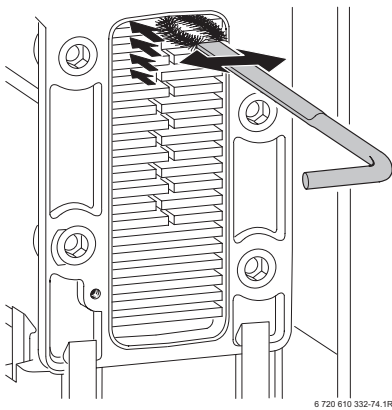

Fig. 52
- Clean the heat exchanger from top to bottom using the brush. Refer to fig. 52.